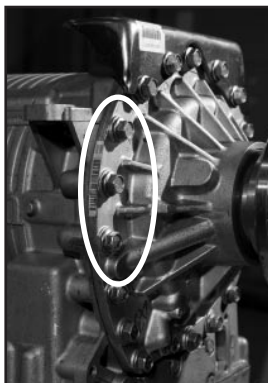

Fig. 13
13. The 3 bolts on the transmission that will line up with the bracket holes must be removed. New longer Bolts (380075 M12-1.75" x 55) will be used for mounting the bracket to the transmission. (**Fig. 13** & **13a**).